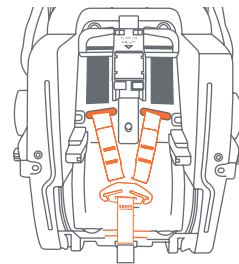

Fig. 34-1
9. From the rear of the Car Seat, pull the Harness Straps through the Slots until you have enough strap to reach the Belt Adjuster Plate (Fig. 34-1).